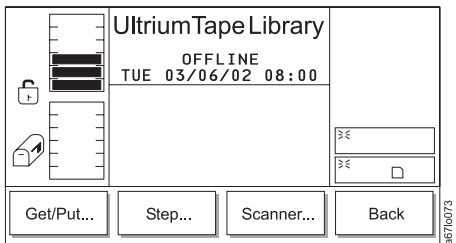

Figure 4-139. Fingers Submenu
4. Press the button below the **Fingers** softkey. The Fingers Submenu displays (see Figure 4-139).